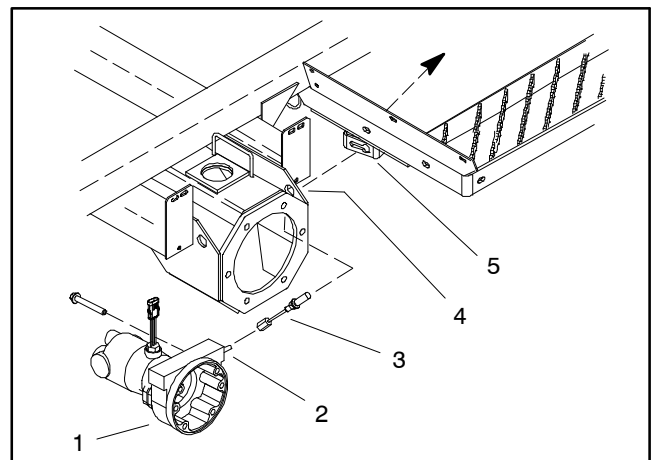

Figure 13
2. Remove brake cable from rear brake (Fig. 13):